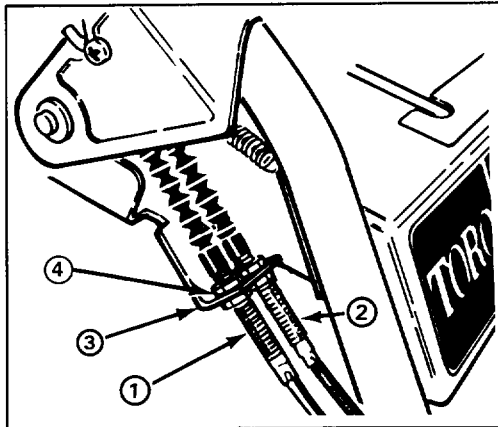

Figure 24
3. Loosen upper jam nut securing auger/impeller cable to mounting bracket (Fig. 24).
ADJUSTING TRACTION DRIVE BELT (Fig. 24)